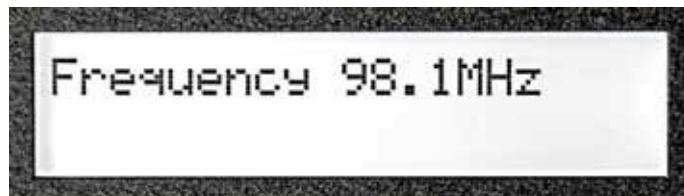

Figure 3-9. Press the FUNCTION Key to read Frequency
1. After pressing the FUNCTION key on the front of the transmitter, the operating frequency will appear on the LCD display (see Figure 3-9).